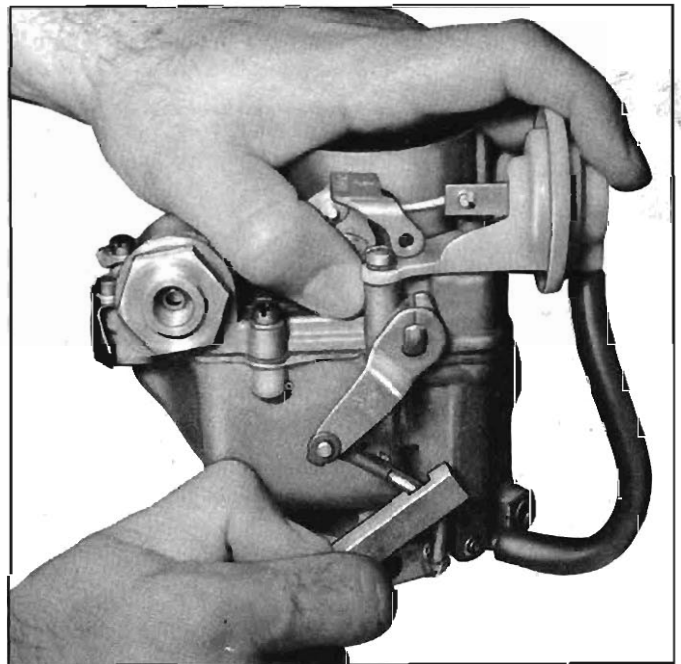

Fig. 9-9—Adjusting Pump Rod
2. Holding throttle valves closed, check to see that the scribe mark on the accelerator pump lever is aligned with the raised cast tang (front edge) on the bowl cover shown in Figure 9-9.